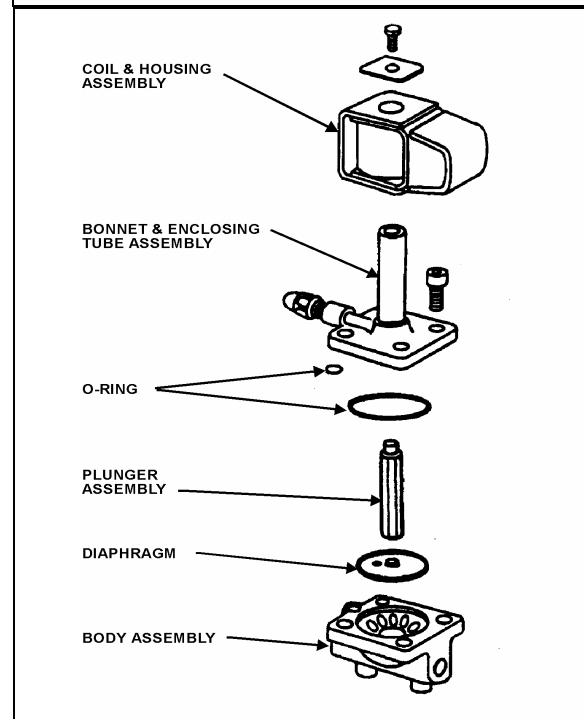

FIGURE 36: REFRIGERANT SOLENOID VALVE 22044
3. Remove the four socket head screws which hold the body and bonnet together (Figure 36).